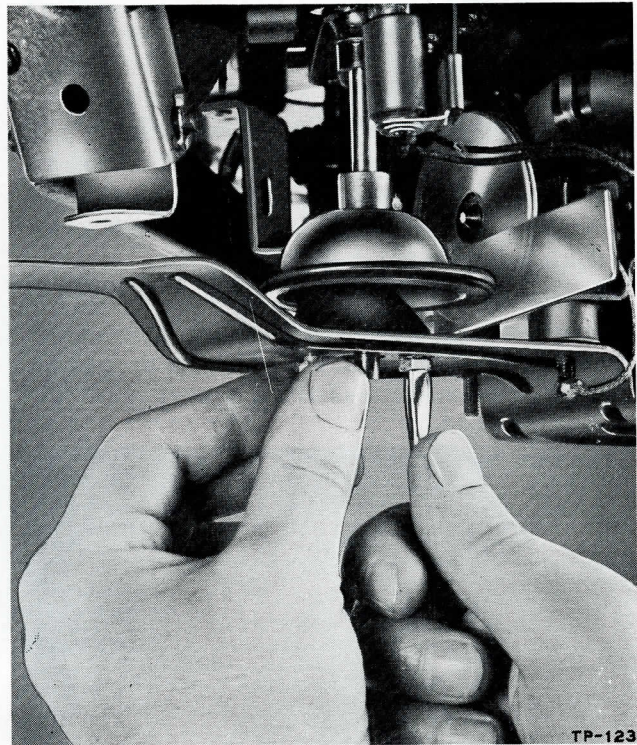

FIGURE 19. ADJUSTING CLEARANCE OF BELL DRIVE
32. Loosen the two screws holding the trunnion-bearing support to the motor-mounting plate and place the $1/16''$ gauge between the bell-drive assembly and the motor-drive disc, as shown in figure 19. Then push the trunnion bearing toward the motor, moving the bell-drive assembly, gauge, and motor-drive disc to the extreme right, and tighten the two trunnion-bearing-support screws and remove the gauge.